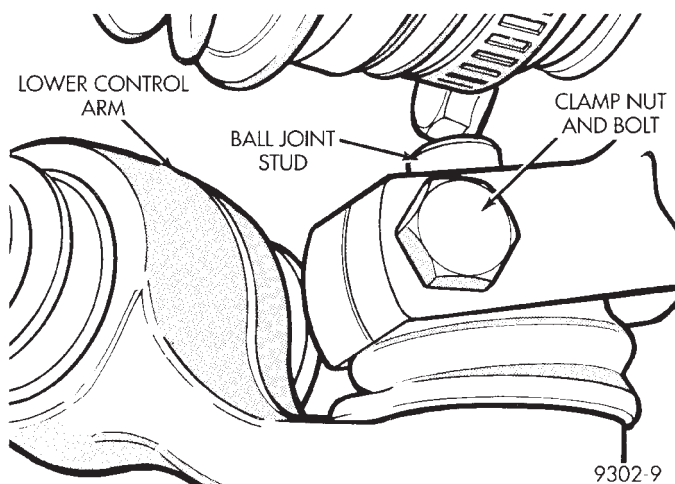
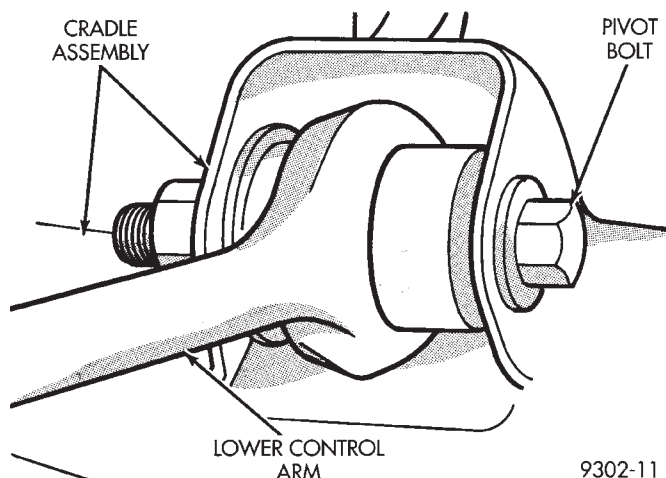

**Fig. 38 Control Arm To Steering Knuckle Attachment**
**Fig. 41 Lower Control Arm Pivot Bolt**
(1) Raise vehicle on jackstands or centered on a frame contact type hoist. See Hoisting in the Lubrication and Maintenance section of this manual, for the required lifting procedure to be used for this vehicle.
(2) Remove the wheel and tire assembly from the vehicle.
(3) Remove the ball joint stud to steering knuckle attaching nut and bolt (Fig. 38).
(6) Loosen and remove lower control arm pivot bushing to cradle assembly pivot bolt (Fig. 41).
(2) Install the lower control arm to cradle bracket attaching pivot bolt and nut (Fig. 41). **Do not tighten the lower control arm to cradle bracket attaching bolt at this time.**
(4) Install lower ball joint stud into steering knuckle. Install steering knuckle to lower ball joint stud, clamp bolt and nut into steering knuckle (Fig. 38). Tighten the clamping bolt to a torque of 55 N·m (40 ft. lbs.).
(5) Install the wheel and tire assembly.
(6) Tighten the wheel mounting stud nuts in proper sequence until all nuts are torqued to half specification. Then repeat the tightening sequence to the full specified torque of 129 N·m (95 ft. lbs.).
(7) Lower vehicle so the suspension is supporting vehicle's weight (control arm at design height). Tighten the lower control arm pivot bushing to cradle bracket attaching bolt (Fig. 41) to a torque of 142 N·m (105 ft. lbs.).